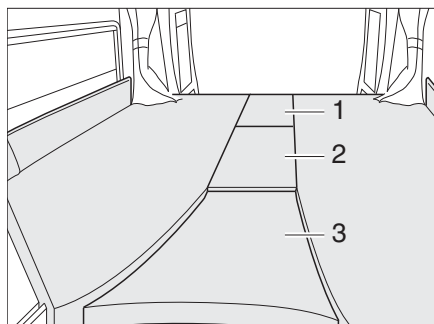
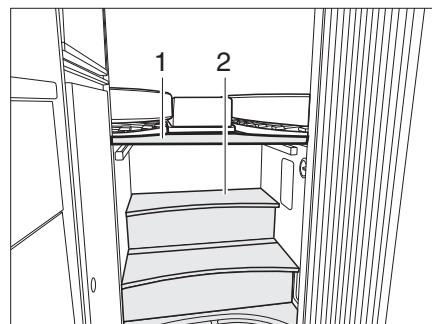

Fig. 46 Double bed rear
Fig. 47 Double bed stairs
- ▷ In order to use the stairs do not use the board (Fig. 47,1) above the stairs as well as the additional cushion (Fig. 46,3).
- Lay the board (Fig. 47,1) onto the braces above the stairs (Fig. 47,2).
- Insert the additional cushions (Fig. 46,1, 2 and 3).